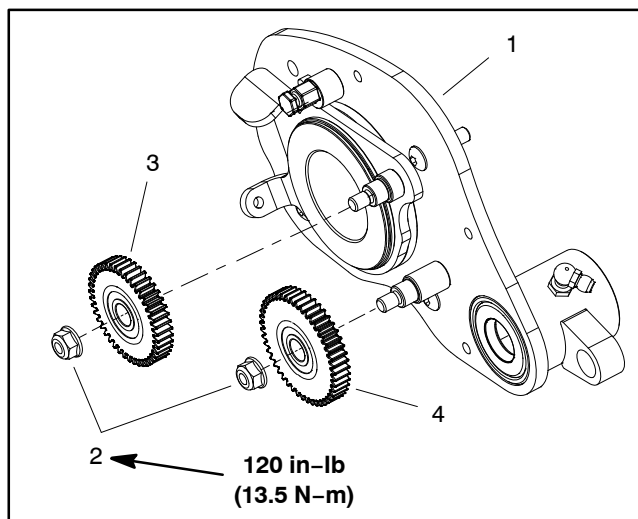
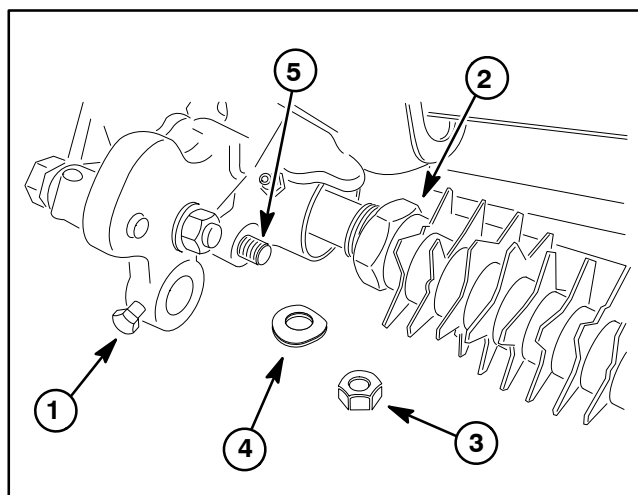

Figure 13
Figure 14
7. Remove the two (2) idler gears (43T and 47T) from the RH drive plate assembly (Fig. 13). The bearings are pressed into the gears.
8. Loosen cap screws (item 7) that secure front roller shaft to groomer arms.
9. Remove lock nut and spring washer that secure RH groomer arm lift rod to RH drive plate assembly (Fig. 14).
10. Remove HOC nut (item 2), HOC washer (item 9) and plow bolt (item 31) that secure RH groomer arm assembly to RH drive plate assembly. Do not change height-of-cut screw adjustment. Remove RH groomer arm assembly from cutting unit.
7. Secure groomer drive gear (item 17) to cutting reel shaft. Torque gear to **125 ft-lb (170 N-m)**.
8. Install the two (2) idler gears (43T and 47T) to RH drive plate assembly (Fig. 13). Secure gears with flange nuts and torque flange nuts **120 in-lb (13.5 N-m)**.